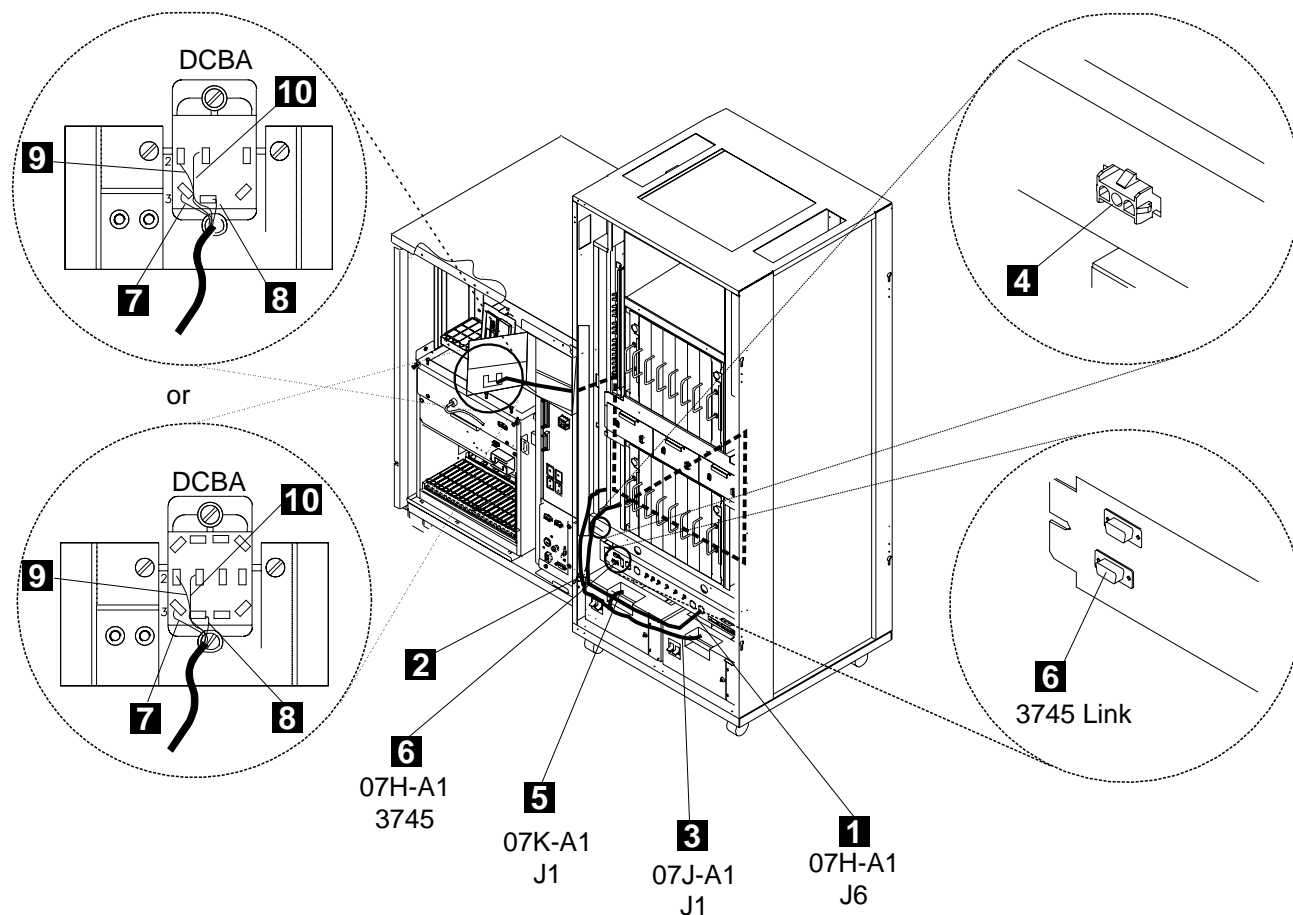

Figure 4. 3746-900 Power Control and UEPO cabling.
- ___ 3. Open the 3745 control panel. Locate the unit emergency power OFF (UEPO) switch at the rear of the control panel, then disconnect the UEPO cable leads **7** to **10** from the UEPO switch (See Figure 4 on page 8).